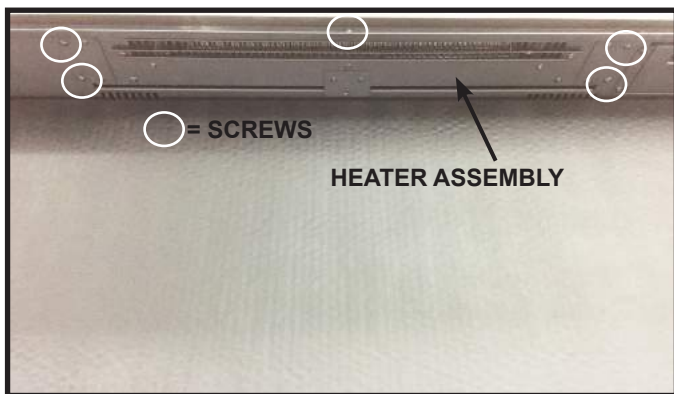

Figure 6
4. Support Heater Assembly and remove 5 screws. See figure 6.